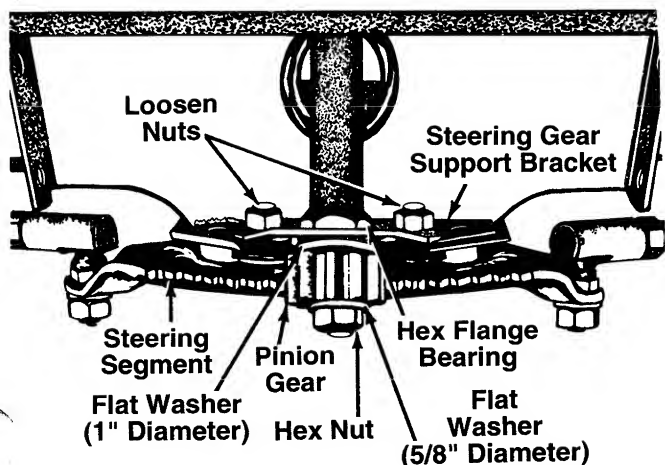

FIGURE 5.
6. **Models 510, 520, 530 and 550:** Insert the **steering shaft** with assembled parts through the **steering housing cover**. The lower end of the shaft should extend through the hole in the front end of the **steering gear adjuster** (Ref. No. 75 on page 28). See figure 5.
8. Place **hex flange bearing**, flat side down, over the end of the steering shaft, and seat it into the steering gear adjuster. See figure 5.